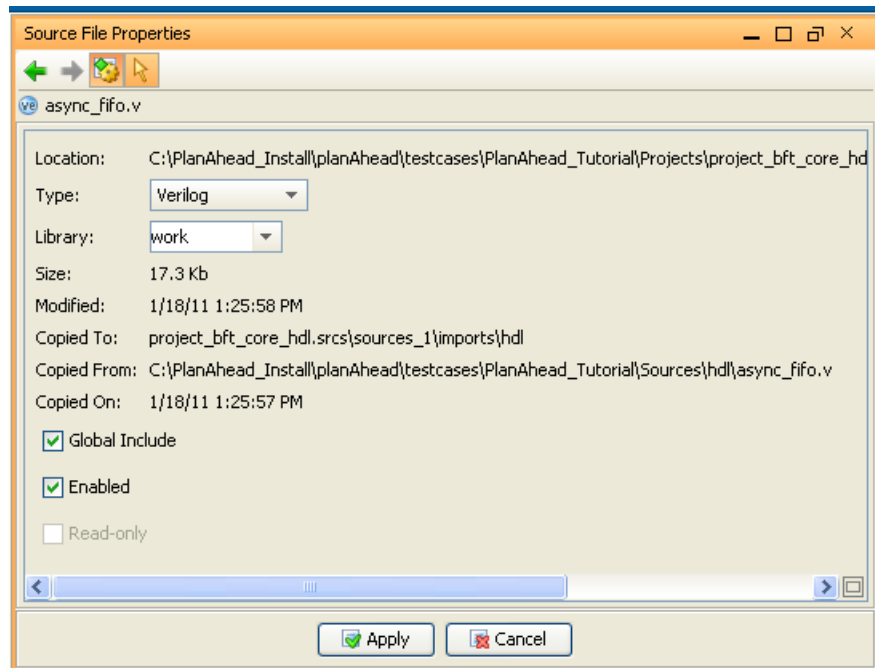

Figure 4-42: Viewing Source File Properties
1. In the Sources view, select a source file and select the **Source File Properties** view. Figure 4-42, page 128 shows the Source File Properties view for a selected Verilog file.